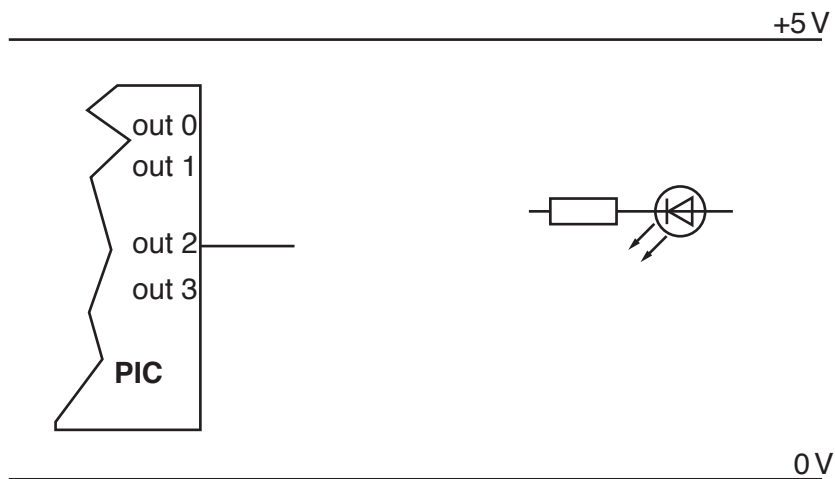

Fig. 18
- (ii) Complete Fig. 18 to show a circuit connected to output 2 that uses an NPN transistor to provide a higher current suitable for a high power LED. [4]